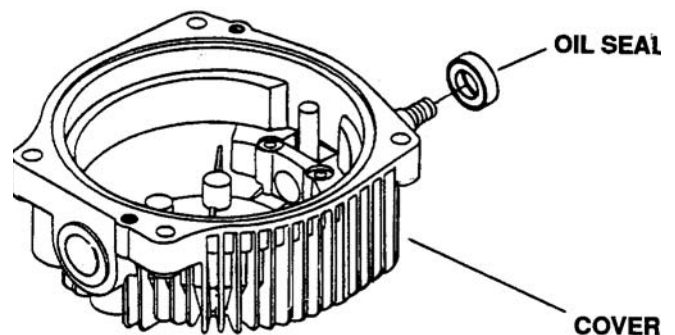

Figure 6-117. Installing Oil Seal
3. Lubricate ID of new oil seal with clean lubricant. Press or tap seal in bore until completely seated. See Figure 6-117.